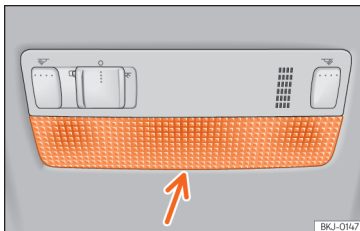

Fig. 165 Front reading light.
- Insert a fine screwdriver between the casing and the glass »» **Fig. 165**.